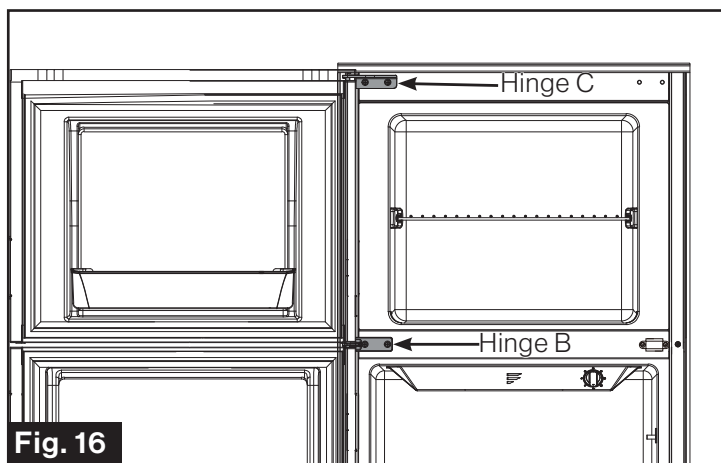

Fig. 16
8. Reinstall the Freezer Door and then fix the Hinge C at the top left. (Fig. 16)